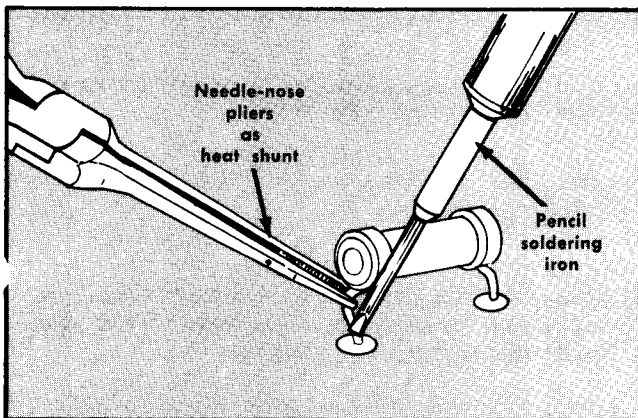

Fig. 5-2. Apply the soldering iron to the heat-shunted lead when removing a component from an etched-wiring card.
3. Touch the tip of the soldering iron to the lead at the solder connection (see Fig. 5-2). When the solder begins to melt, pull the lead out quickly.